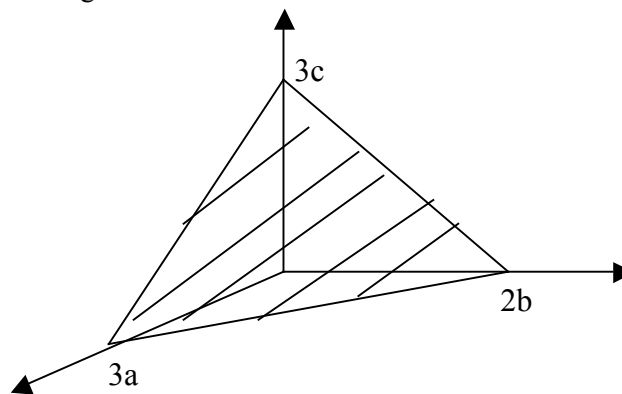

Figure 1.10: Plane used to derive miller indices
- (i) Find the intercepts on the axes in terms of the lattice parameters, **a, b, and c**. In the case of a cubic lattice, **a = b = c**. Let these intercepts be **3a, 2b, 3c**, Fig. 1.10